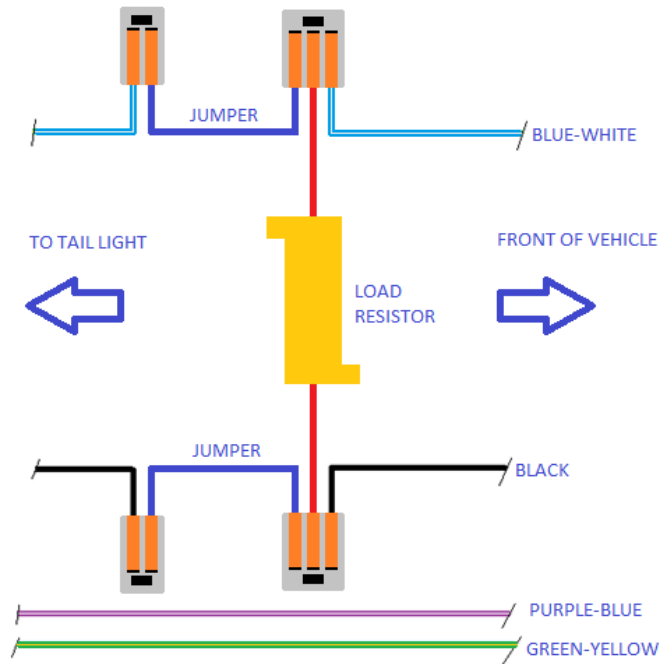
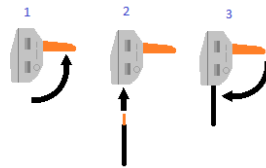
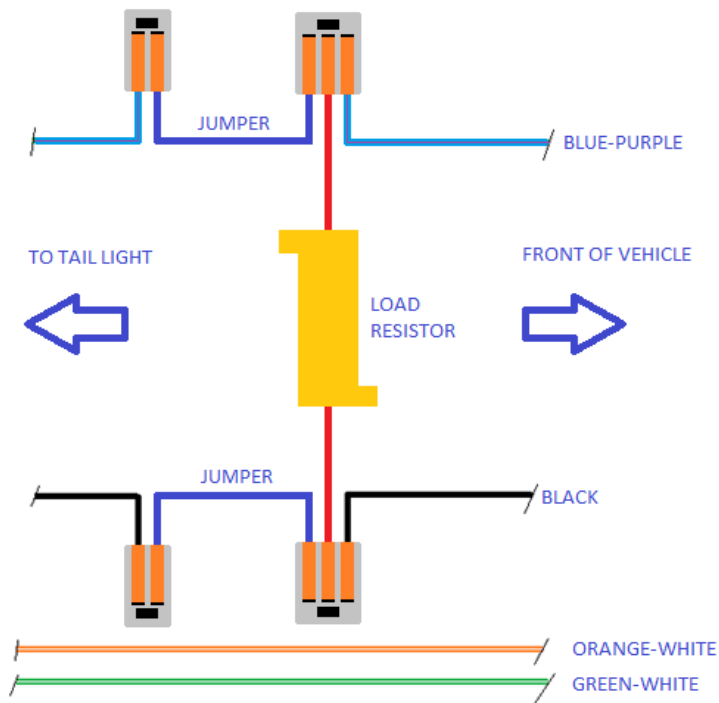

Figure 8: Wiring Diagram (Driver Side US/ Passenger Side Europe (Left side))
Figure 9 – Connector Lever
Figure 10: Wiring Diagram (Passenger Side US / Driver Side Europe (Right Side))
13. Insert the one end of the **Blue-White** wire into one of the 2 terminal connectors and close the lever. (See Figure 8 and Figure 9 for layout).
14. Insert the other end to the corresponding 3 terminal connector and close the lever. (See Figure 8 and Figure 9 for layout).
15. Insert the one end of the **Black** wire into one of the 2 terminal connectors and close the lever. (See Figure 8 and Figure 9 for layout).
16. Insert the other end to the corresponding 3 terminal connector and close the lever. (See Figure 8 and Figure 9 for layout).
21. Insert the one end of the **Blue-Purple** wire into one of the 2 terminal connectors and close the lever. (See Figure 10 and Figure 9 for layout).
22. Insert the other end to the corresponding 3 terminal connector and close the lever. (See Figure 10 and Figure 9 for layout).
23. Insert the one end of the **Black** wire into one of the 2 terminal connectors and close the lever. (See Figure 10 and Figure 9 for layout).
24. Insert the other end to the corresponding 3 terminal connector and close the lever. (See Figure 10 and Figure 9 for layout).